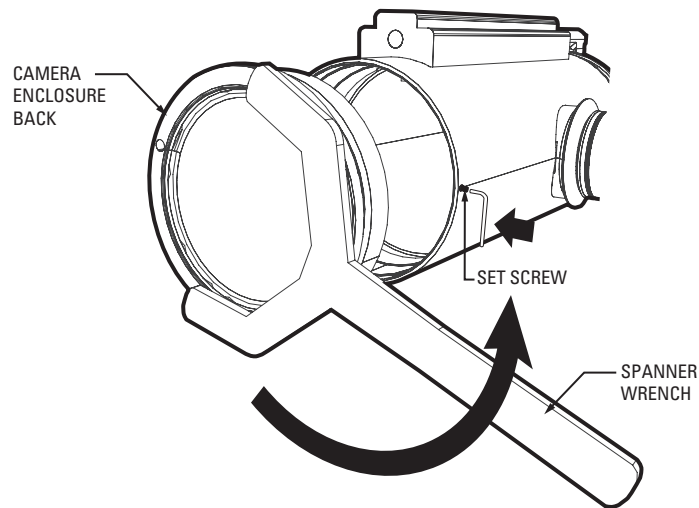

Figure 13. Remove Back Cap of Camera Enclosure
1. Remove the back cap of the camera enclosure. Refer to Figure 13 and do the following: